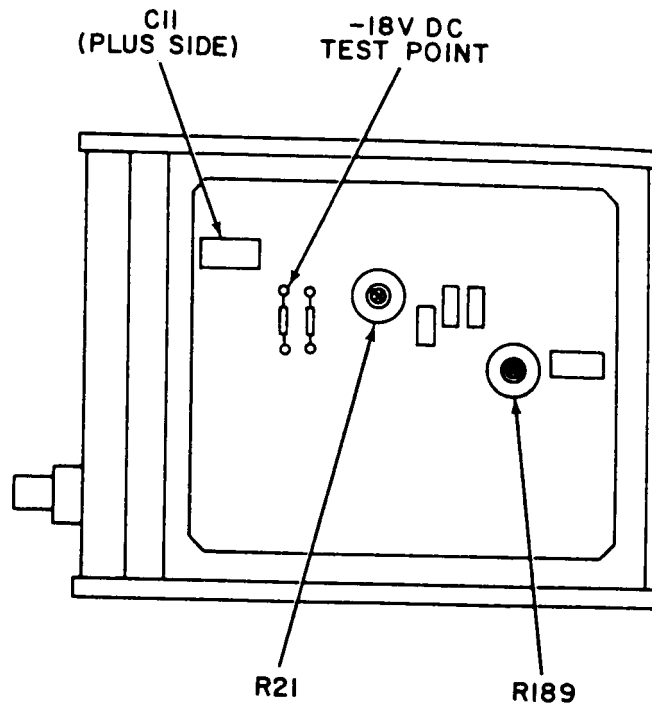

Figure 8. Model 415D-top view.
(1) Set ratio transformer controls to .063096 and record TI meter deviation from 2-dB mark on 0 to 2.5 DB scale.
(2) Adjust R189 (fig. 8) until TI meter indicates same deviation on opposite side of 2-dB mark (R).
a. Performance Check. Connect dc voltmeter (A4) between -18 VDC test point and positive lead of C11 (fig. 8), using probe (B6). If dc voltmeter does not indicate between -17.82 and -18.18 V dc, perform **b** below.
b. Adjustments. Adjust R21 (fig. 8) until dc voltmeter indicates -18.0 V (R).